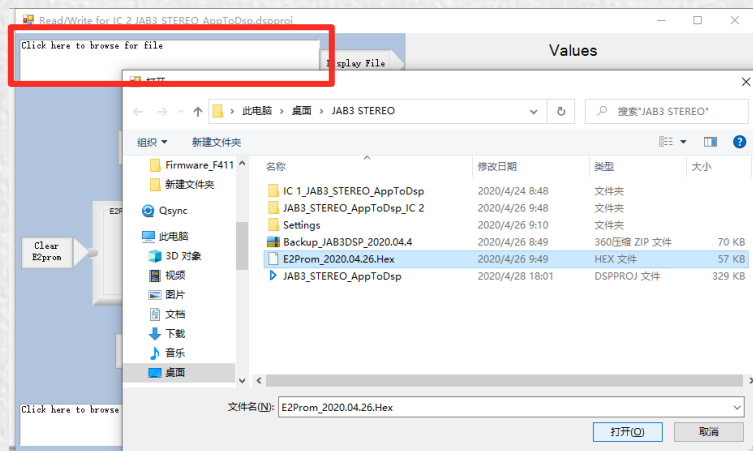
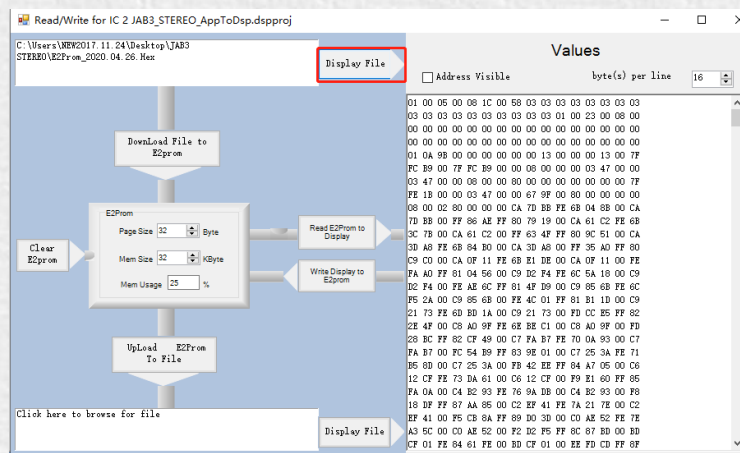

Figure 8
Figure 9
2. Click ‘Click here to browse for file’ and select firmware file (Figure 8). Then click ‘Display File’ like Figure 9.